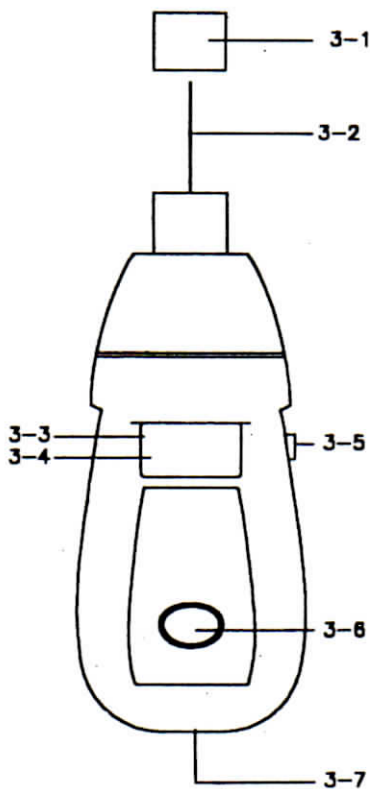

Fig. 1
Apply a reflecting mark to the object being measured. Depress the " Measuring Button " (3-5, Fig. 1) & align the " Laser Light Beam " (3-2, Fig. 1) with the applied target. Verify that the " Monitor Indicator " (3-3, Fig. 1) lights when the target pass through the light beam. Release the " Measuring button " when the reading stabilizes (about 2 seconds).
- a) *First push the "Memory Call Button" (3-6, Fig. 1)* – To display the last value (" LA " and the " last value " will be displayed alternately).
- 2) Slide the " Battery Cover " (3-7. Fig 1) away from the meter and remove the batteries